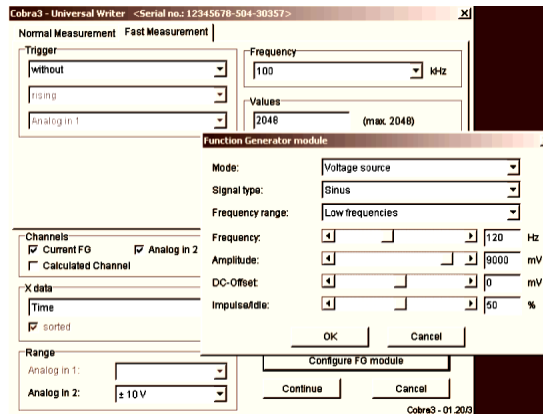

Figure 2.41:
- 10) Use “**Measurement**” → “**Channel manager...**” to select the “**Current FG'**” values as x-axis and the “**Analog in 2'**” voltage values as y-axis (Figure 2.41). The Lissajous-figure to be produced now is no function but a relation so selects in the “**Convert relation to function**” window the option “**Keep measurement in relation mode**”.